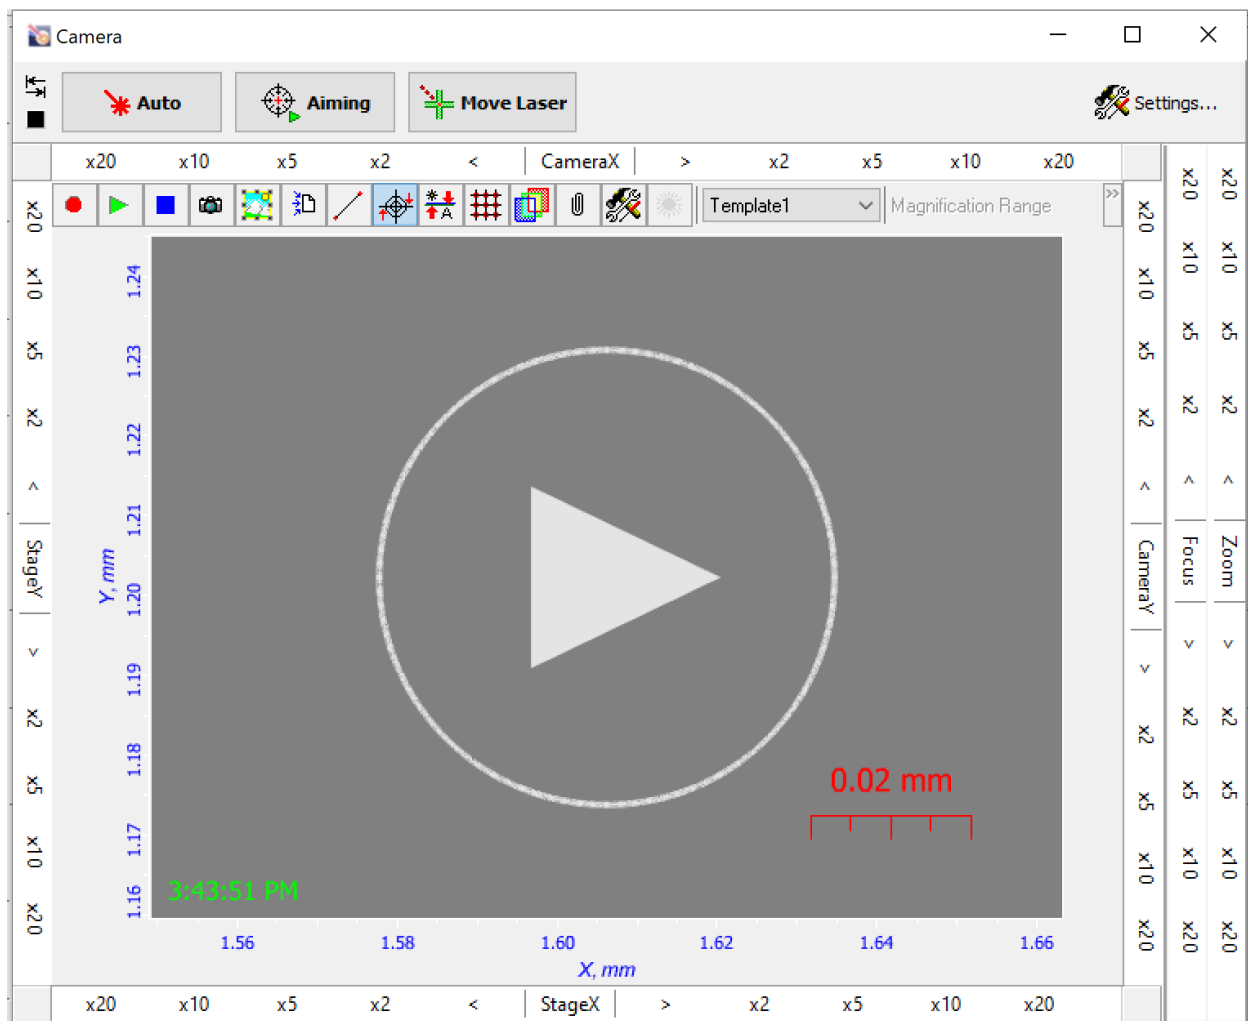

Figure 8: Camera menu
- There are many controls along the perimeter of the menu (Figure 8)